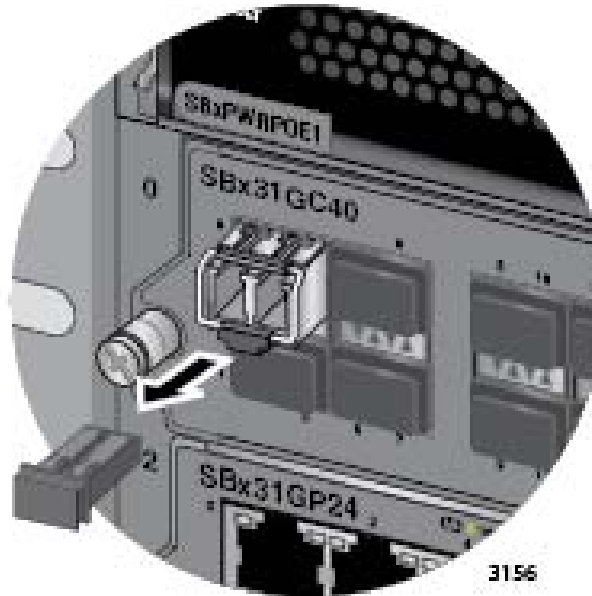

Figure 90. Removing the Dust Cover from an SFP or a CSFP Transceiver
- Remove the protective cover from the ports on the transceiver, as shown in Figure 90 on page 152.